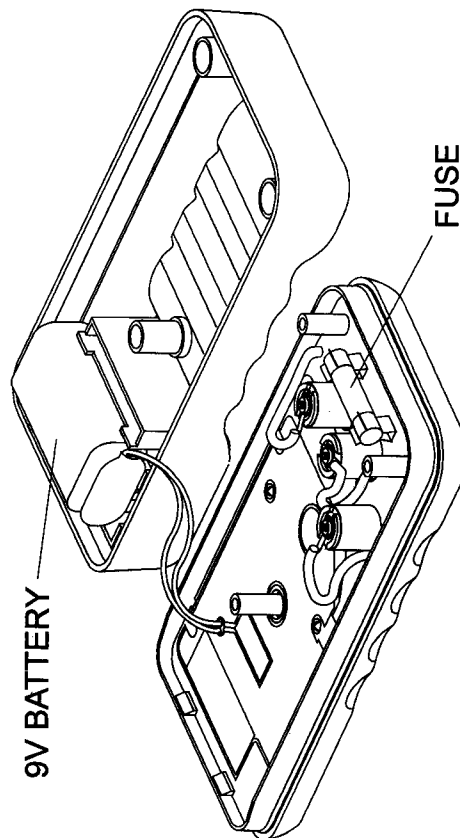

FIG 14. BATTERY & FUSE REPLACEMENT
- 4) Lift the end of the case bottom nearest the input jacks until it unsnaps from the case top, see **FIG 14**